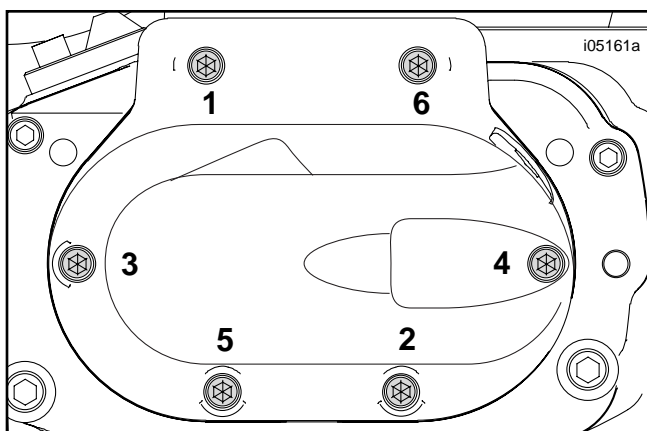

Figure 7. Torque Sequence, Transmission Side Cover
- See Figure 7. Tighten the side cover screws, in the sequence shown, to 120-144 **in-lbs** (14-16 Nm).